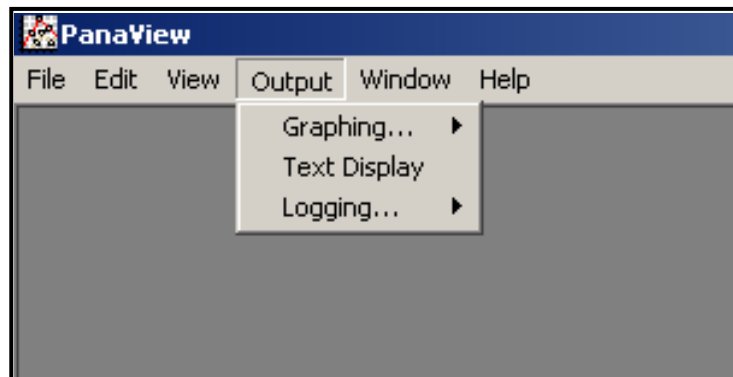

Figure 2: Output Menu
To access PanaView's data handling options, pull down the *Output* menu, as shown in *Figure 2*.
2. Pull down the *Output* menu and click on the *Text Display* option (see Figure 2 on page 43).
2. Pull down the *Output* menu and click on the *Graphing - New* option (see Figure 2 on page 43).